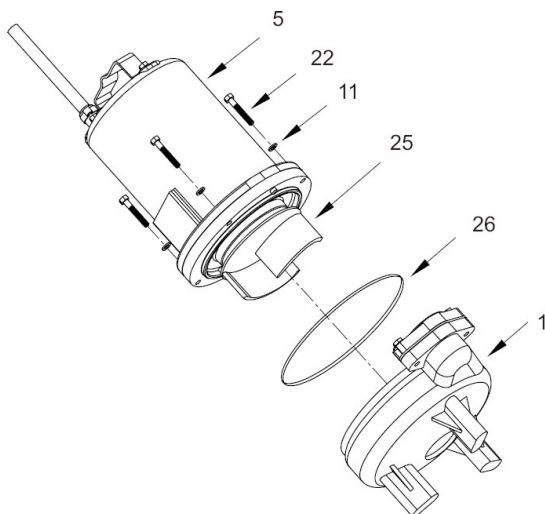

FIGURE 5
To clean out volute (1) or replace impeller (25), disconnect power, remove hex bolts (22), and lockwashers (11), vertically lift motor and seal plate assembly from volute (1) see Figure 5. Clean out body if necessary. Clean and examine impeller (25), for pitting or wear and replace if required, inspect gasket (26) and replace if cut or damaged. If the impeller (25) needs replacing, place a flat screwdriver in the slot of the end of the shaft to hold the shaft stationary while unscrewing the impeller (25).